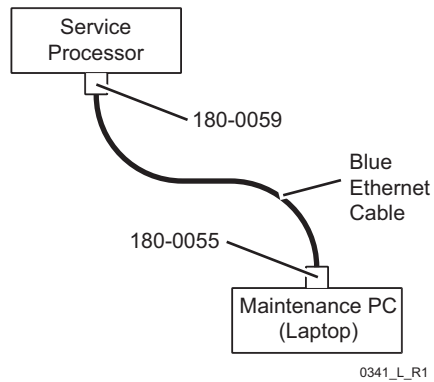

Figure 3-11. Service Processor to Laptop Connection
- 2 Attach the DB9 female serial to RJ45 crossover adapter assembly (P/N 180-0055) to the free end of the Ethernet cable and then insert it into the **DB-9 serial** port on the maintenance PC (Figure 3-11).